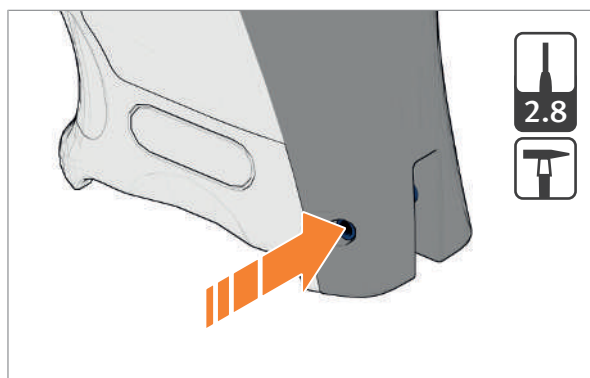

Fig. 25: Drive out clamping sleeve for back strap
1. Extract clamping sleeve for back strap using pin punch (Fig. 25).